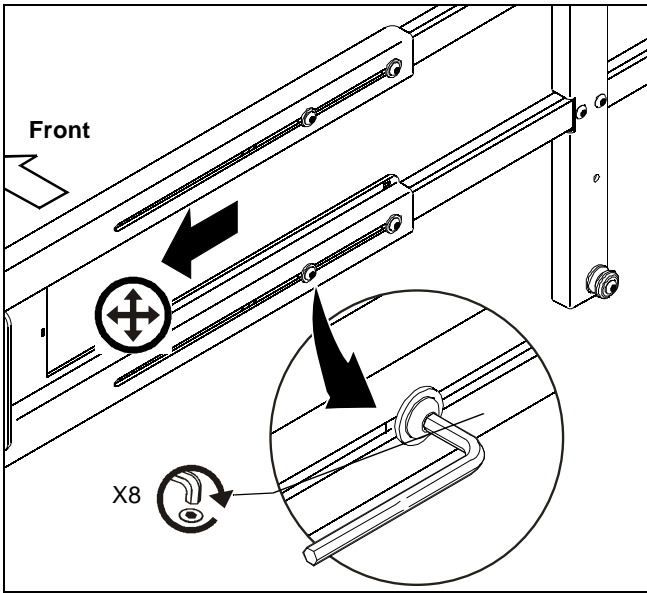

**Figure 11**
2. Verify latching flag is in the OPEN position. (See Figure 11)
5. Move latching flag to CLOSED position to secure display on accessory. (See Figure 11)